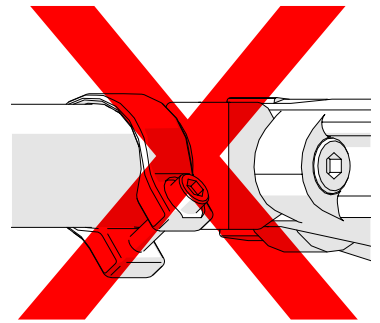
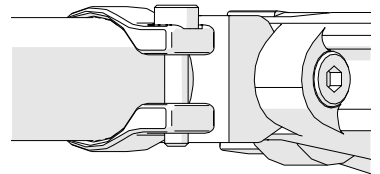

Fig. 67 - Incorrect clamp alignment
Fig. 68 - Correct clamp alignment
**TIP:** Ensure the sleeve clamp is oriented correctly (Fig. 68) and the sleeve clamp screw will not protrude lower than the scanner wheels (Fig. 67).